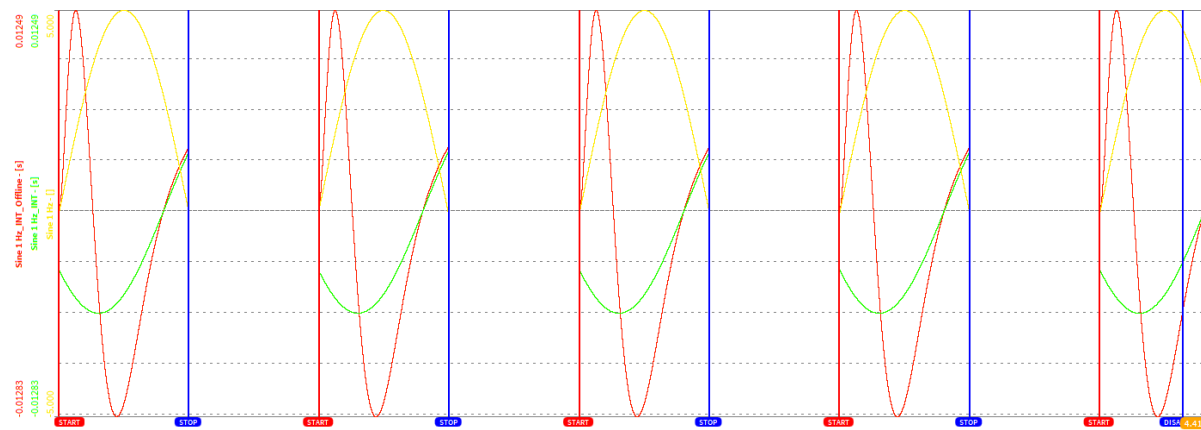

Fig. 7.178: Deviation of Offline and Online Filter channels in case of Event based Waveform recording
- Be aware that an Offline Filter channel will differ from an Online Filter channel, i.e. at the beginning of the file or in case of Event based waveform recording (see *Triggered Events*). In the example displayed in Fig. 7.178, the green channel is an online calculated Integrator applied on the yellow analog channel and the red channel is an offline calculated integrator applied on the yellow analog channel with identical channel settings. The deviation of the green and the red channel happens, because the offline calculated integrator will oscillate at the beginning of each new event, but the online calculated integrator not, because the analog data is always available during online calculation.